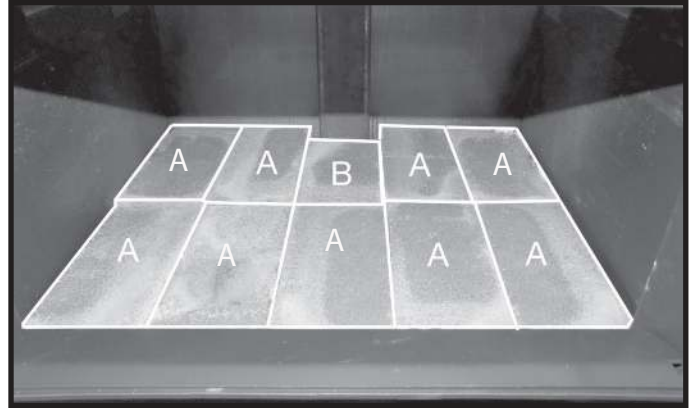

Figure 26: Floor bricks - Summit Insert LE.
3. Place five full bricks along the front row; Eliminating any gaps between the bricks by shifting the bricks towards the center of the firebox (Figure 26).